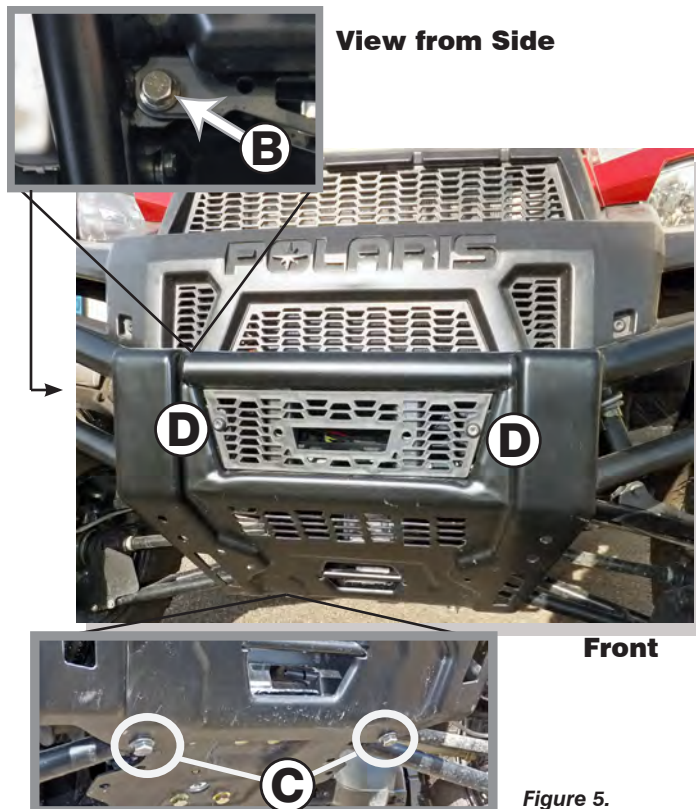

Figure 5.
6. Remove the front bumper. Remove the 4 bolts attaching front bumper (B) and (C) as shown in Figure 5. See inset views. Remove OEM plastic grill from bumper frame held in place by 2 Torx head screws (D). Discard OEM grill.